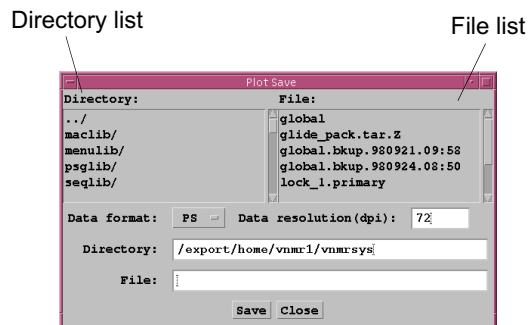

Figure 77. Plot Save Window
1. Click on **File** in the Main Menu, then **Save Data** to open the Plot Save window shown in Figure 77.